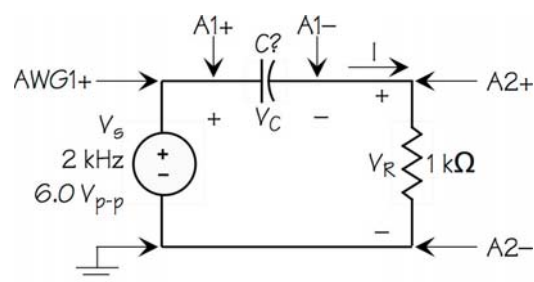

Fig. 1—Capacitor measurement
1. Before building the circuit of Fig. 1, measure the actual resistance of the 1-k Ω resistor.
2. Construct the circuit of Fig. 1.